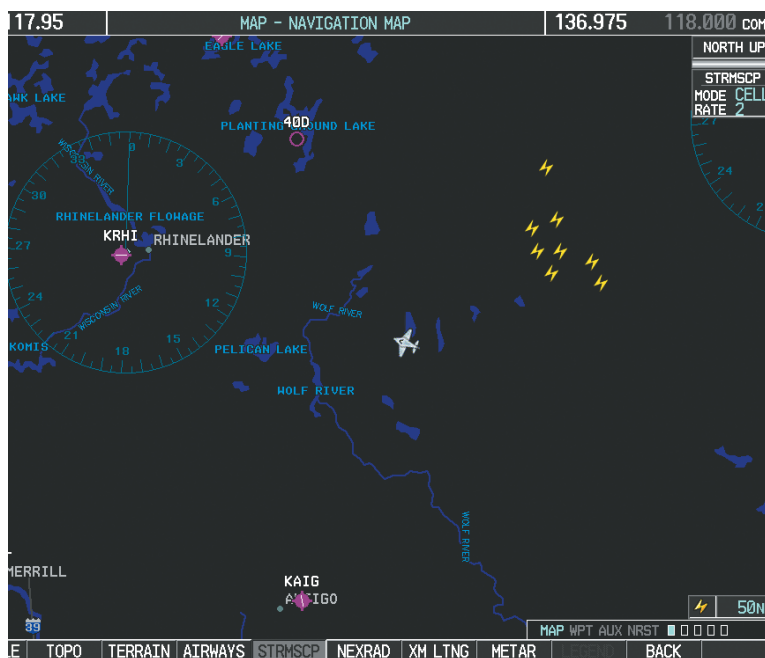

Figure 6-56 Navigation Map Page with Stormscope Lightning Data
- 7) Press the **FMS** Knob to return to the Navigation Map Page (Figure 6-56).
On the Navigation Map, cell mode identifies cells of lightning activity (Figure 6-56). Stormscope identifies clusters of electrical activity that indicate cells. Strike mode indicates the approximate location of lightning strikes.